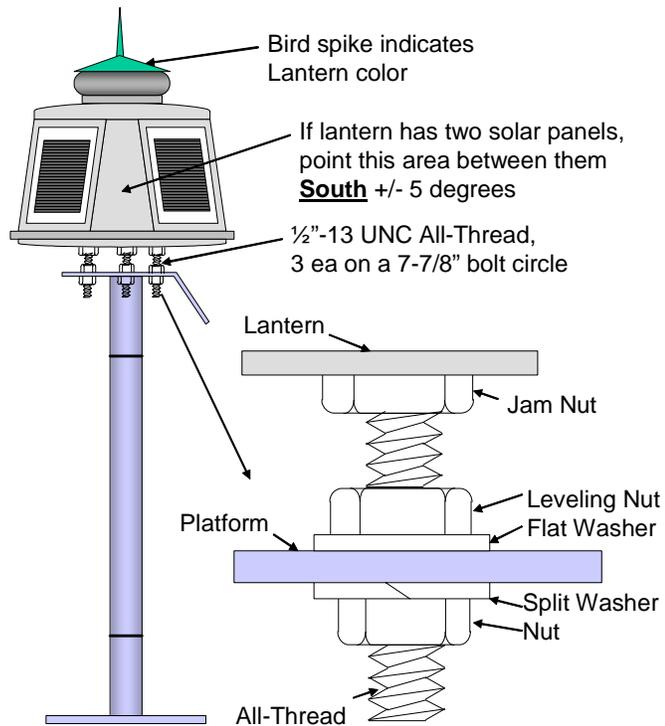

Figure 3-8
- c. On structures, Insert three 6" lengths of stainless steel  $\frac{1}{2}$ "-13 UNC All-Thread in the base of the lantern as far as they will go (about 2"). Thread three  $\frac{1}{2}$ " stainless steel nuts and tighten against the base of the lantern. These act as jam nuts and prevent the All-Thread from loosening in the lantern. Thread three stainless steel  $\frac{1}{2}$ " nuts about half-way up the All-Thread. Place three stainless steel flat washers on the platform, then install the lantern on the platform. See Figure 3-8.